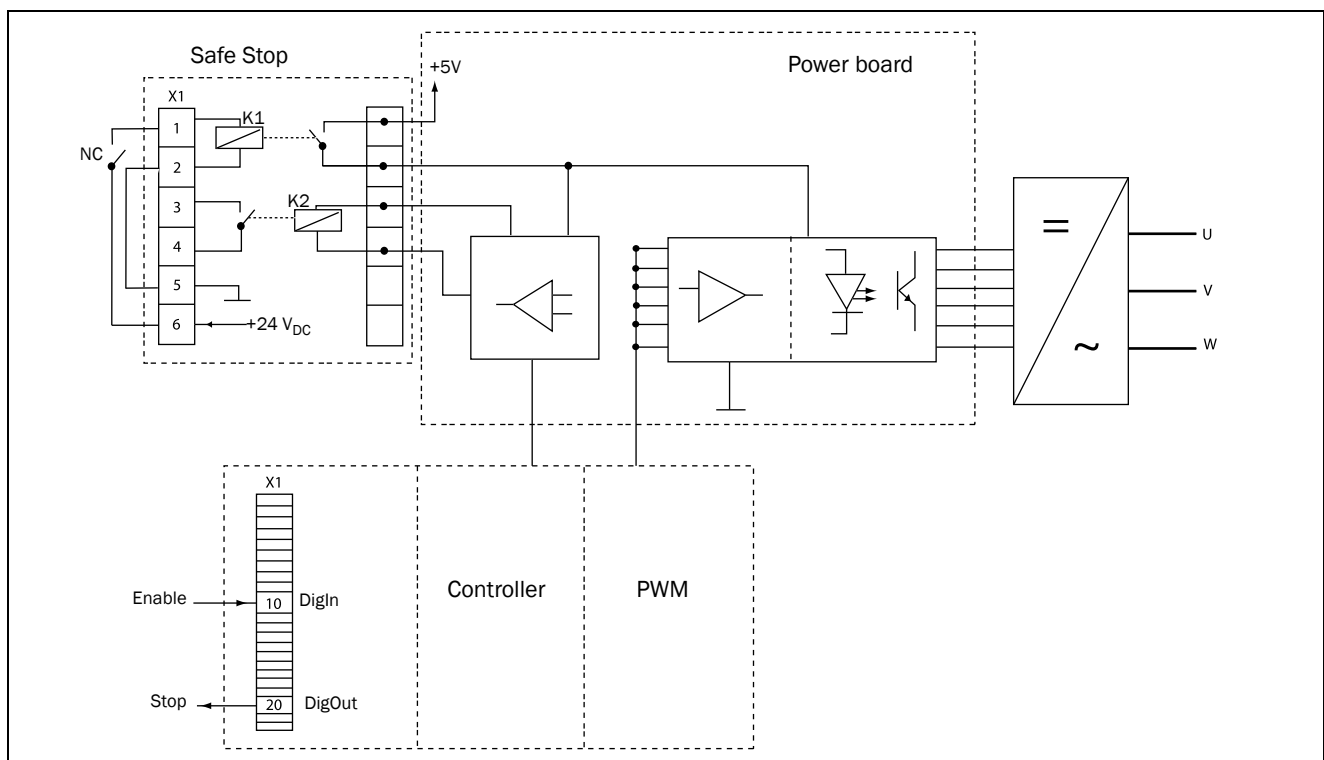

Fig. 107 Safe Stop connection
- "Inhibit" input, terminals 1 (DC+) and 2 (DC-) on the Safe Stop option board should be made active by connecting $24 V_{DC}$ to secure the supply voltage for the driver circuits of the power conductors via safety relay K1. See also Fig. 107.
- High signal on the digital input, e.g. terminal 10 in Fig. 107, which is set to "Enable". For setting the digital input please refer to section 10.5.2, page 132.
To monitor the "Enable" function, the selection "RUN" on a digital output can be used. For setting a digital output, e.g. terminal 20 in the example Fig. 107, please refer to section 10.5.4, page 138 [540].